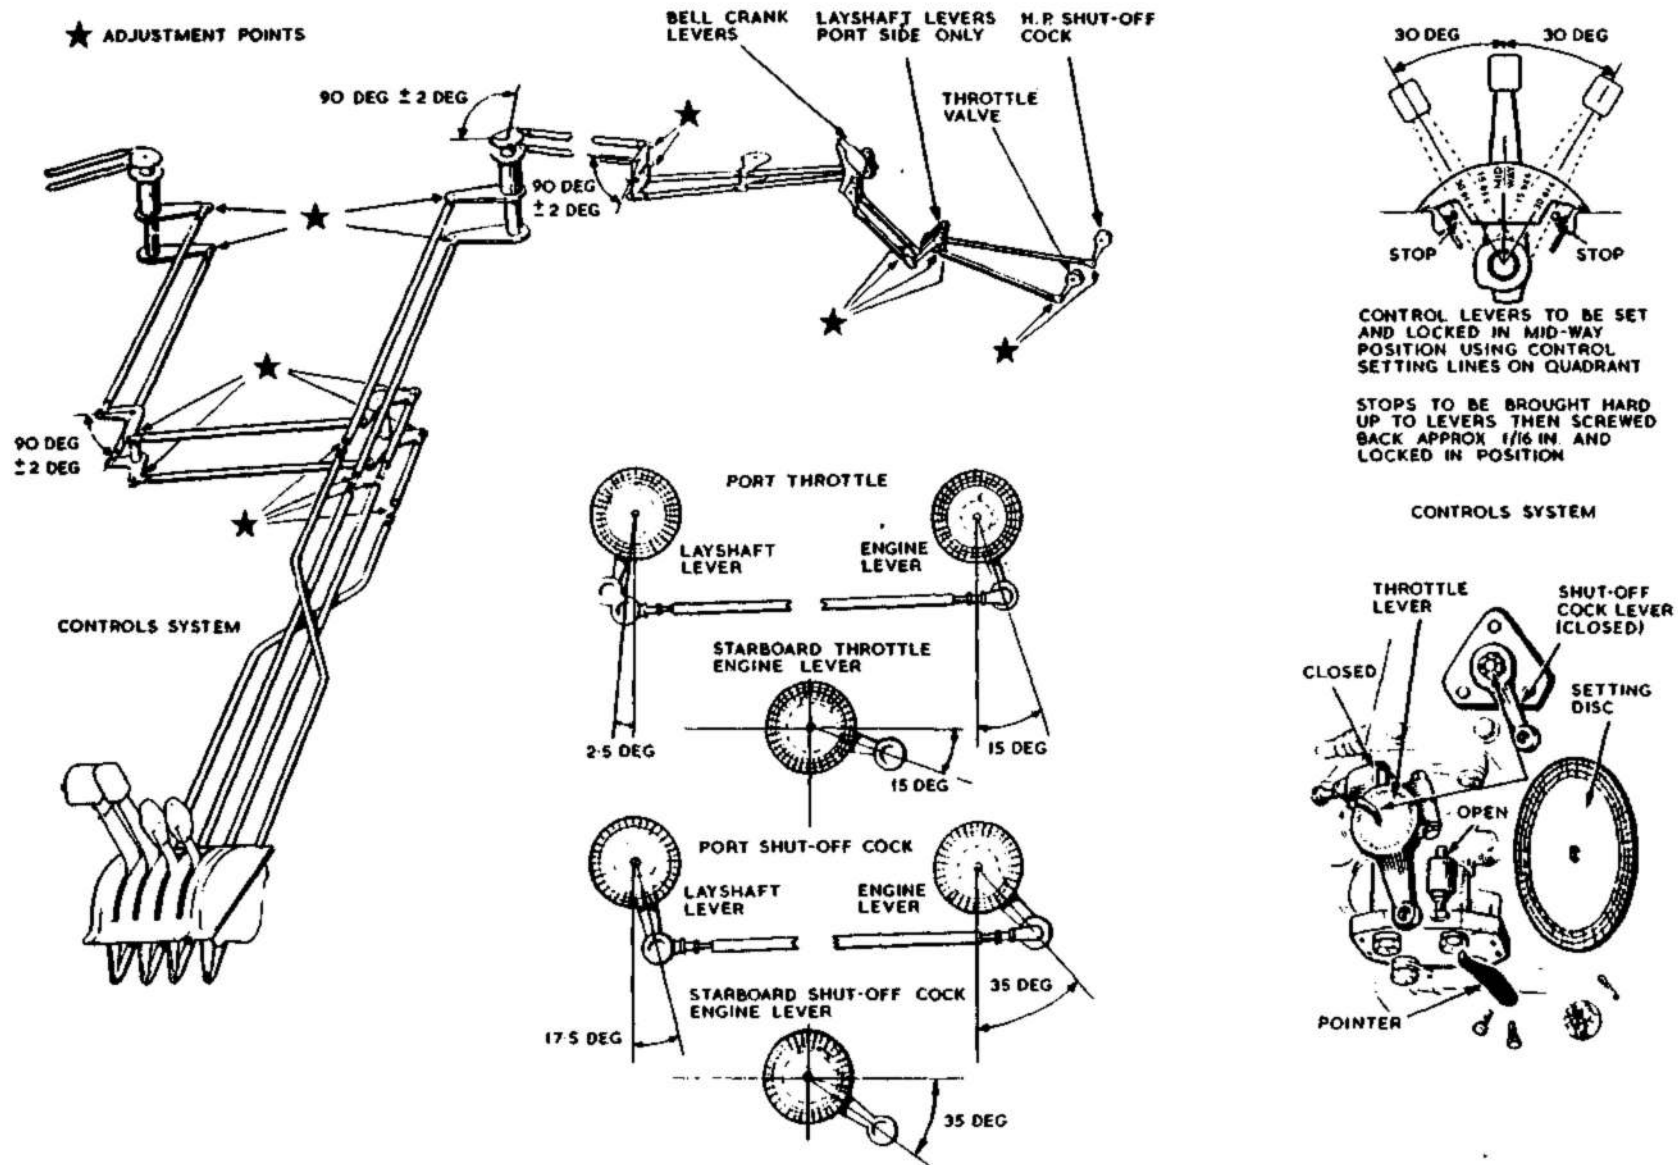

FIG. 4. RIGGING THE ENGINE CONTROLS
Engine controls (fig.4 and 5)
13. Refer to fig. 4. The equipment provided is listed in Sect. 2, Chap. 4. In use, the throttle box setting plate is inserted in the operating slot of the control quadrant, alongside the lever being set, with its lower end resting on the flanges of